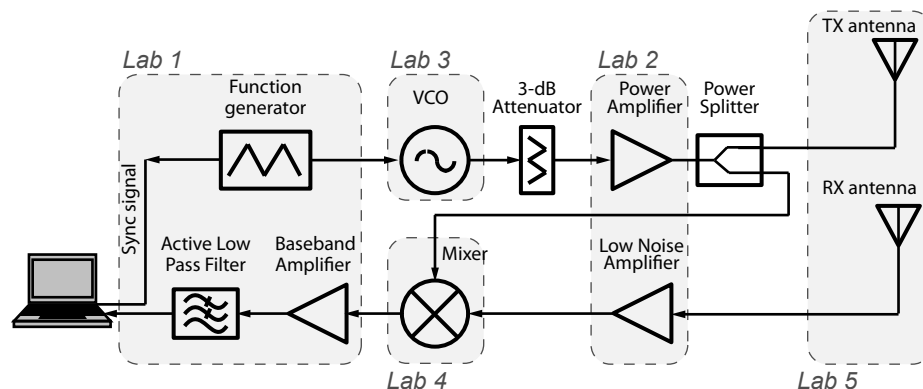

Figure 6: Block diagram of the EEC 134 Quarter 1 FMCW radar system.
In this lab, we will assemble the radar kit according to the block diagram in Fig. 6. A wood board is going to be used as a platform to hold all the components of the system.
8. Mount your baseband circuits (battery, voltage regulator, modulator, LPF, etc) on the wood board, and connect them according to Fig. 6.